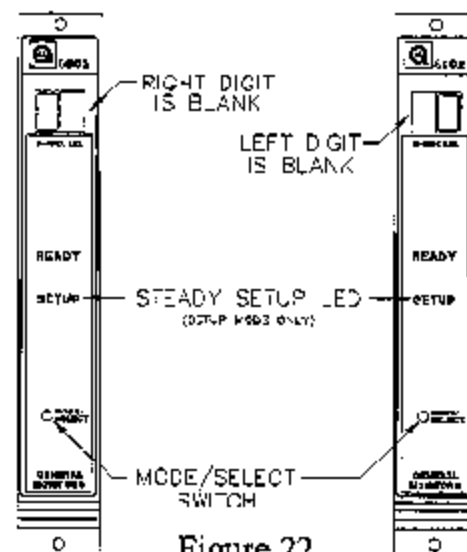

Figure 22
- **This option applies to the Setup Mode only:** If the password option is enabled, the right digit of the display will be blank and a 0 will appear in the left digit on the display (figure 22). If the number is incorrect, press the Mode/Select switch until the correct number is displayed, then wait about five seconds.
The left digit of the display will be blank and a 0 will appear in the right digit on the display (figure 22). If the number is incorrect, press the Mode/Select switch until the correct number is displayed, then wait about five seconds. If the password is correct the user will proceed with the inhibit option. If the password is incorrect the user will not be able to proceed and unit will return to the normal operating mode. Once in the operating mode the user may attempt to re-enter the Setup Mode. The factory default password is 00.